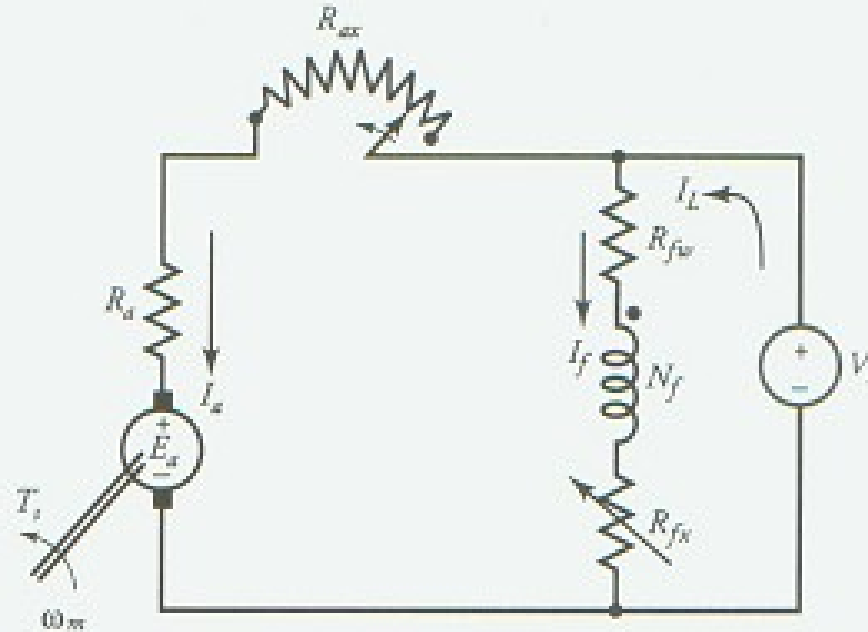

Figure 6.8 An equivalent circuit of a shunt motor with a starting resistor in the armature circuit.
- The equivalent circuit of a shunt motor is shown in Figure 6.8 with a starting resistor in the armature circuit.